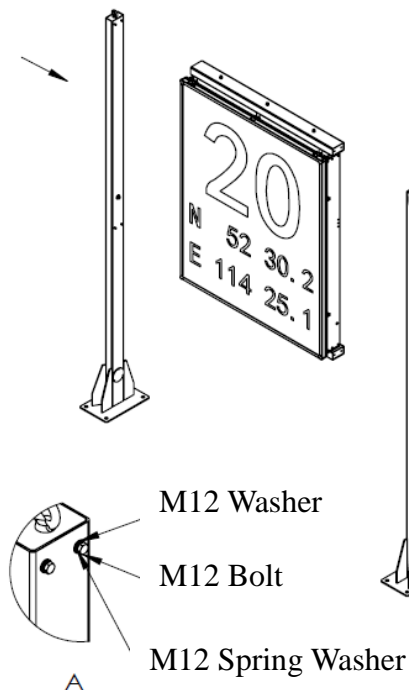

Figure 3.2.1
- Connect the left and right columns with the box components through M12 screws (as shown in Figure 3.2.1). Before connection, thread the power supply cable into the box through the column in advance.